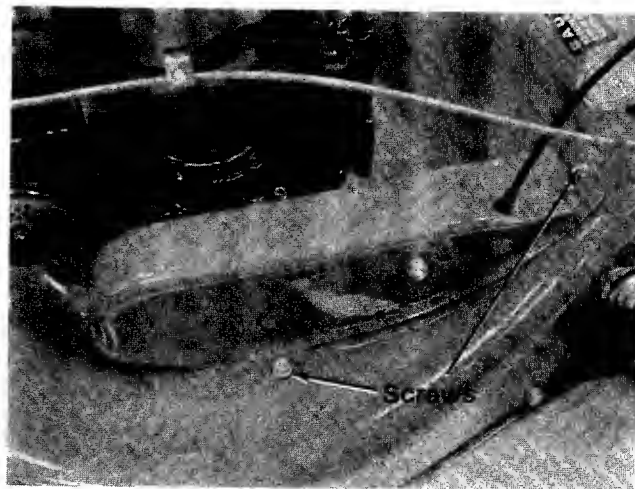

FIGURE 22.
3. Remove the three screws which hold the belt guard (and idler assembly). See figure 22.